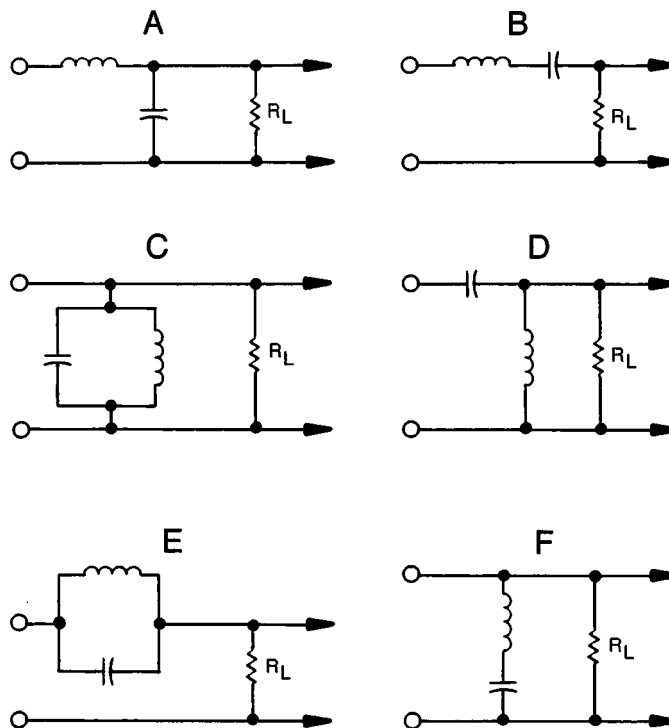

Figure 5-37
89. (1-A, 2-D, 3-C, 4-B) Figure 5-37 shows six types of filters. Match the following: